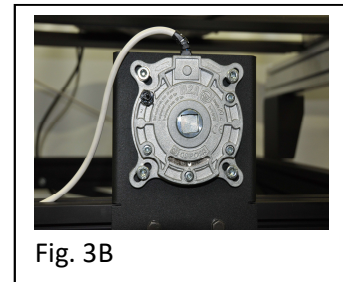

Fig. 3B
- The lift is supplied with a safety mechanism (Fig. 3B) with a double security system: first - this is a mechanic safety system that prevents the steel cable to unroll when the speed has reached 50 rpm, second – this is an electrical security system that disconnect the electrical connection of the motor if the force driven on the steel cable, caused by the falling down, is more than 503 Nm.